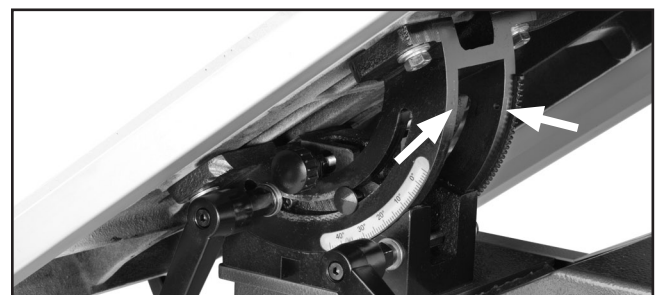

Figure 15. Trunnion lubrication location.
3. Apply a thin coat of light all purpose grease to the trunnions (see **Figure 15**).